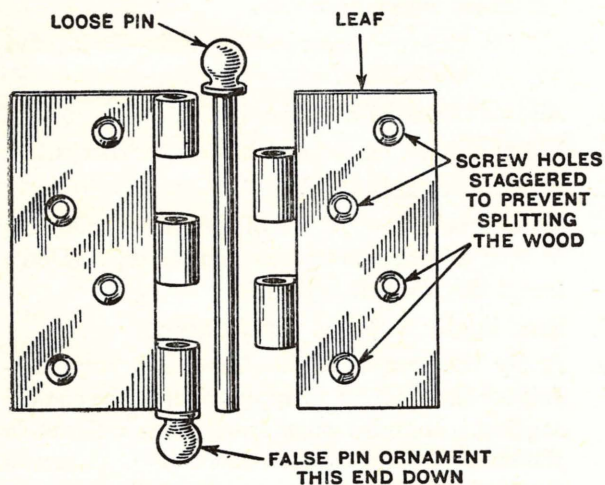

Fig. 435—The parts of the loose pin butt hinge
- (a) Remove the pins. (See Fig. 435.)